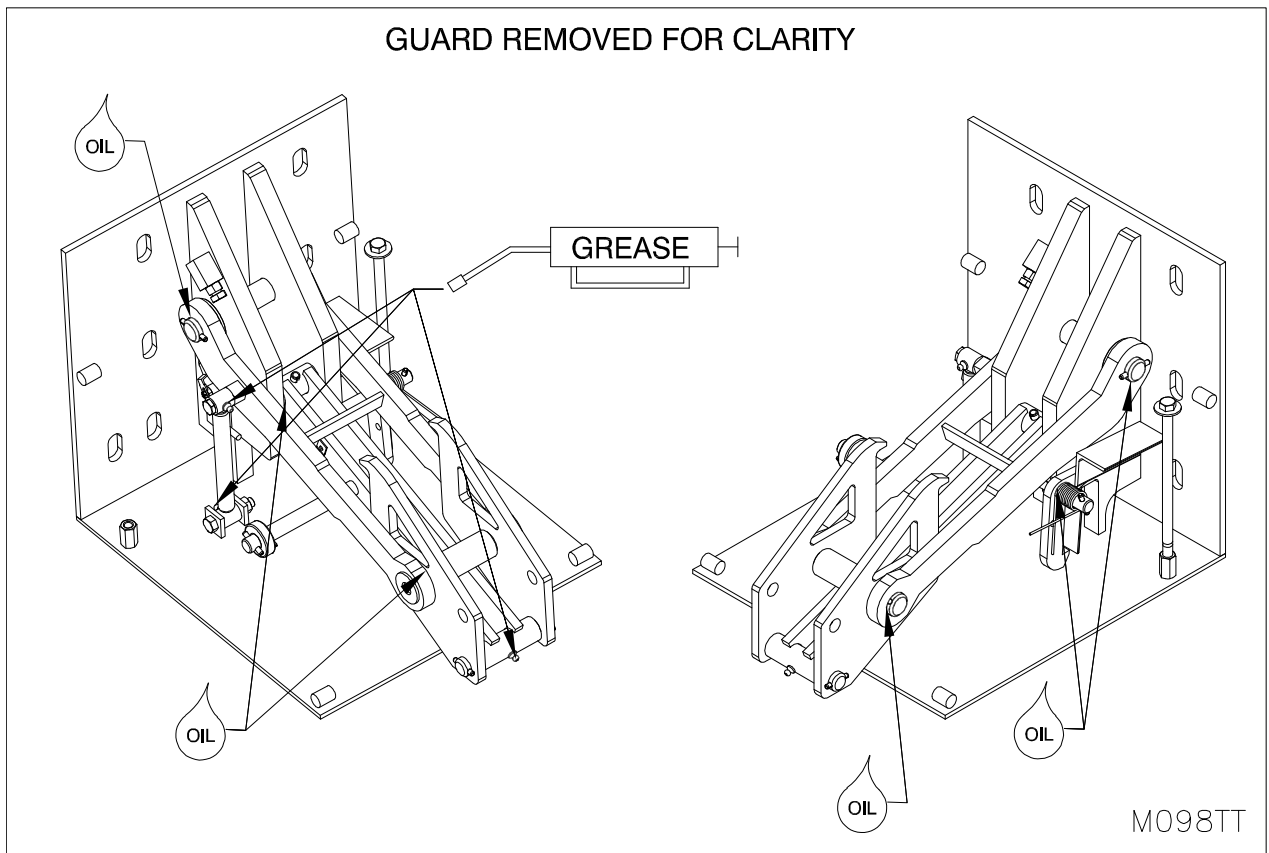

Figure 22: Lubrication Points
As shown by “Figure 22: Lubrication Points” on page 21, four pivot points on the Vehicle Restraint must be lubricated regularly to help maintain the unit in proper working condition. The recommended lubrication **service interval is every 30 days** or at a greater frequency as required in severe environments. For maximum bearing life, the recommended lubricant is **NLGI Grade 2 grease with EP and MOS2 additives**. Oil all pivot points without grease fittings. **Dexron III Automatic Transmission Fluid is recommended**.
- b. Confirm restraint is properly lubricated. (See "Figure 22: Lubrication Points" on page 21)